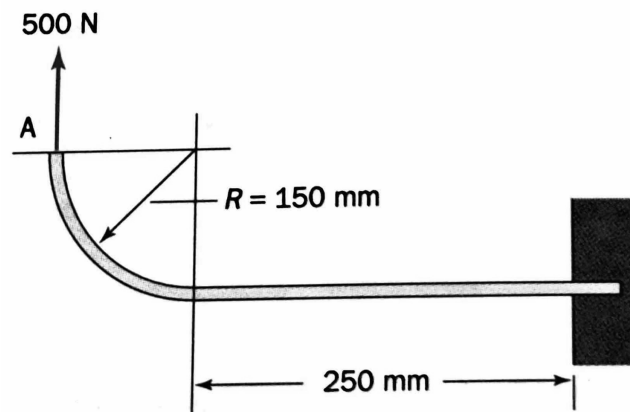

Figure 1 (b)
- (b) Figure 1 (b) shows a curved beam subjected to a load of 500 N at A. If the product of Young's modulus and second moment of area for the beam section is given by $EI = 26 \text{ kNm}^2$, calculate the vertical deflection at A.